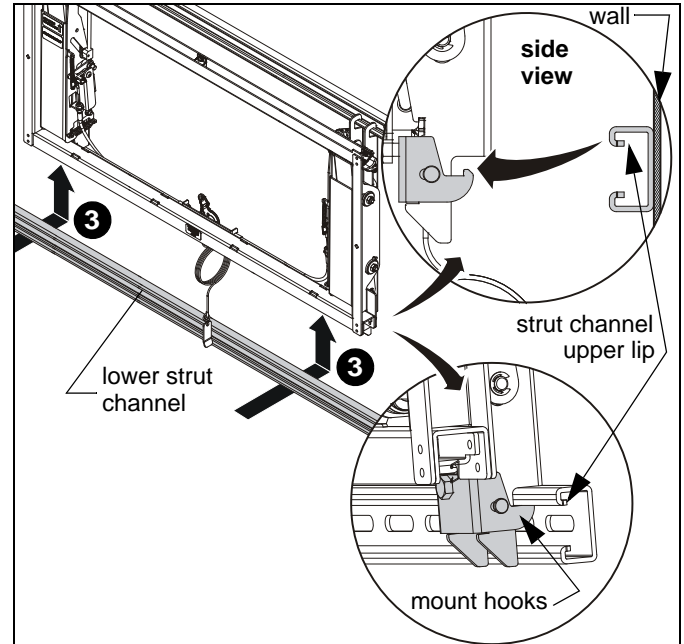

Figure 10
3. **LVXSUP only:** Add lower strut channel to bottom of all mounts in row by lifting strut channel up from below mounts and setting upper lip of strut channel onto mounts' latching hooks. (See Figure 10)